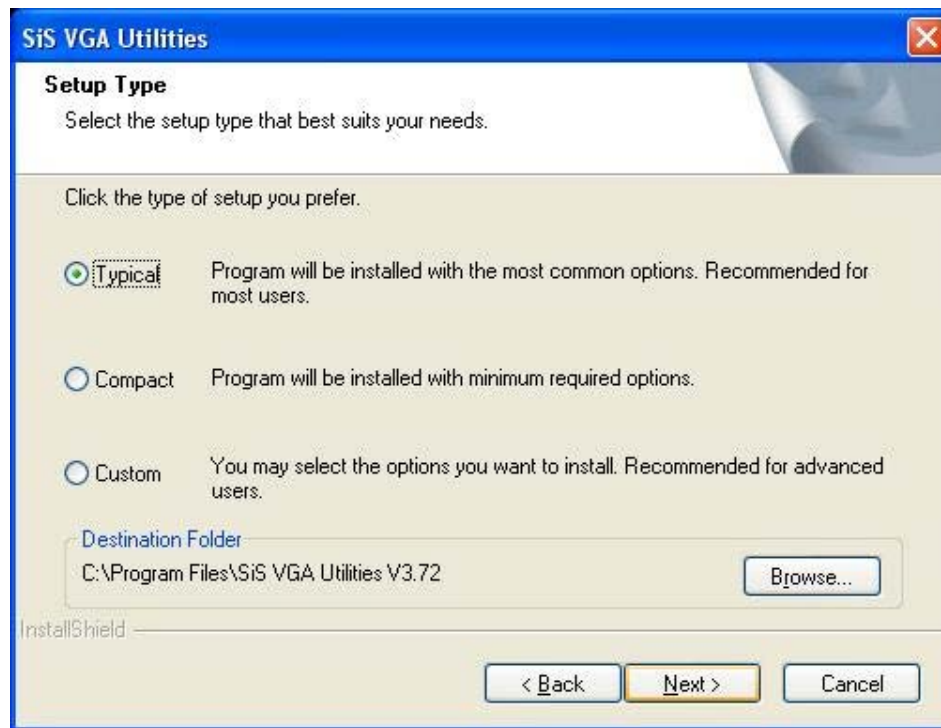

Figure 6-7: Select Setup Installation Type
Step 8: You then select the setup type (see **Figure 6-7**). Once the setup type is selected, click on the **NEXT** button in the setup type menu (see **Figure 6-7**).